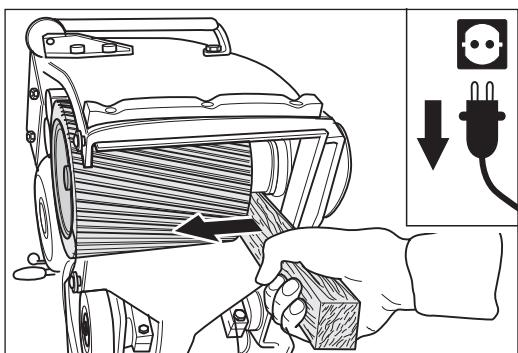

Fig. 50 If the sanding drum is too stiff to be removed, carefully lever it away with a wooden lathe. **Never use brute force!**
- 7 **If the sanding drum is too stiff to move, use a wooden lever to dislodge it (Fig. 50), so as not to damage the machine! Never attempt to loosen the sanding drum by hitting with a hammer!**